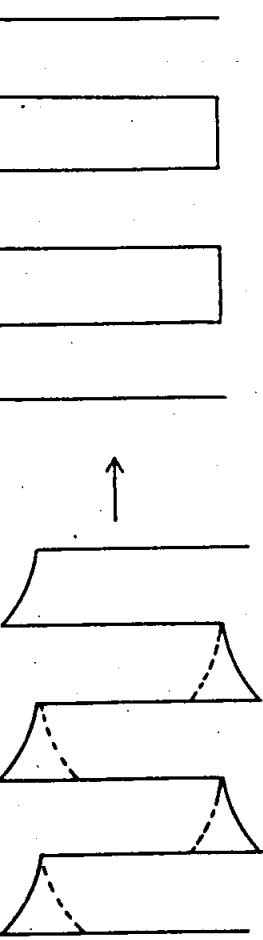
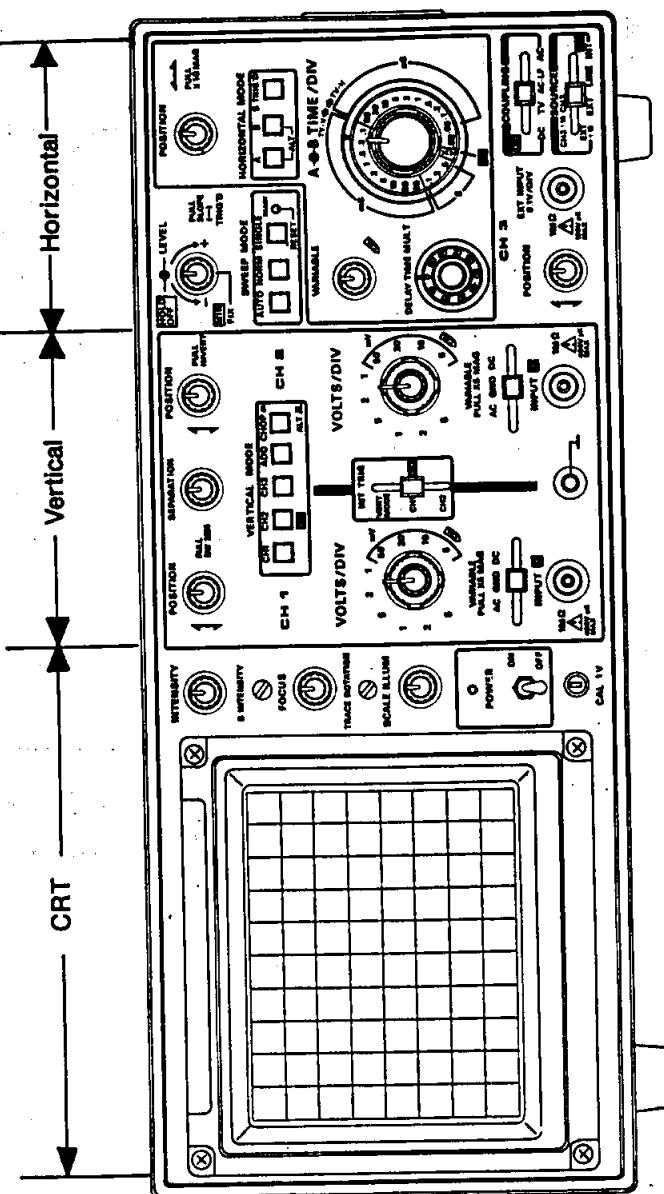

Figure 4-1.
Figure 4-2.
- e. Sweep Mode Knob (14) Auto
- f. Pull x 10 MAG knob (13) Pushed
- g. AC-GND-DC Switch (8) (1) AC
- 2) Connect AC power cord to the Main input connector (39) of Rear panel and plug-in to the AC line outlet.
- 3) Turn-on the power switch (1). In about 20 seconds, a trace will appear on the CRT screen. If no trace in 60 seconds, turn the Intensity knob (4) to the right.
- 4) Adjust the trace to an appropriate brightness and sharpest image with the Inten control and Focus control, (4) (5).
- 5) Align the trace to the center of the graticule by adjusting vertical position knob (20) (CH1) and Horizontal position Knob (3) (CH1).
- 6) Set the AC-GND-DC switch (8) in the DC state, Vertical Mode Swith (16) in the CH1, Connect the probe to the CH1 Input Terminal (9) and apply the IV Calibrator (2) to the probe tip.
- 7) Set the VOLTS/DIV Switch (10) (CH1) in 20mV/DIV, Turn the Variable knob (2) to the right-end, Triggering Switch (15) in INT, INT TRIG switch (16) in CH1
- 8) Make the trigger of CAL signal stable By adjusting Level Knob (12) Set Time/DIV knote in 1ms/Div. With above operations, 5 Div square wave appears on the CRT screen.
- 9) When the displayed waveform (square) is distorted as Figure 4-1 please adjust trimmer on the probe until the waveform becomes as Figure 4-2.